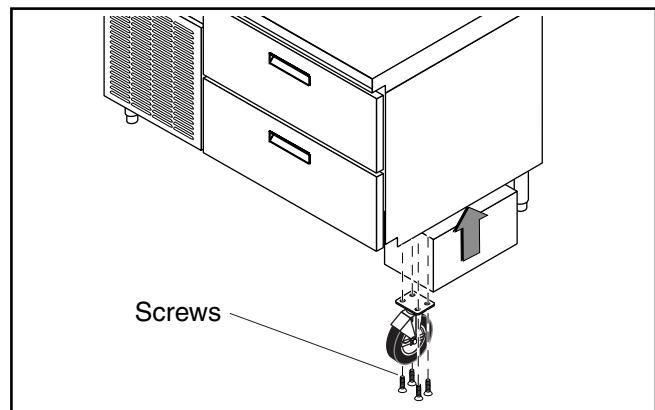

Figure 17. Caster Removal
1. Place a jack underneath the refrigeration unit as close as possible to the caster (Figure 17). Lift the unit up just high enough to remove the caster from underneath the refrigeration unit. Place blocking underneath the unit to prevent the unit from falling during removal of the caster.